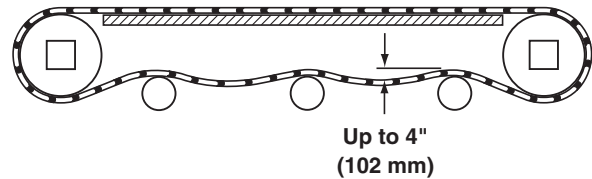

Figure 39
8. Check belt sag by measuring from the top of the return (**Figure 39**).